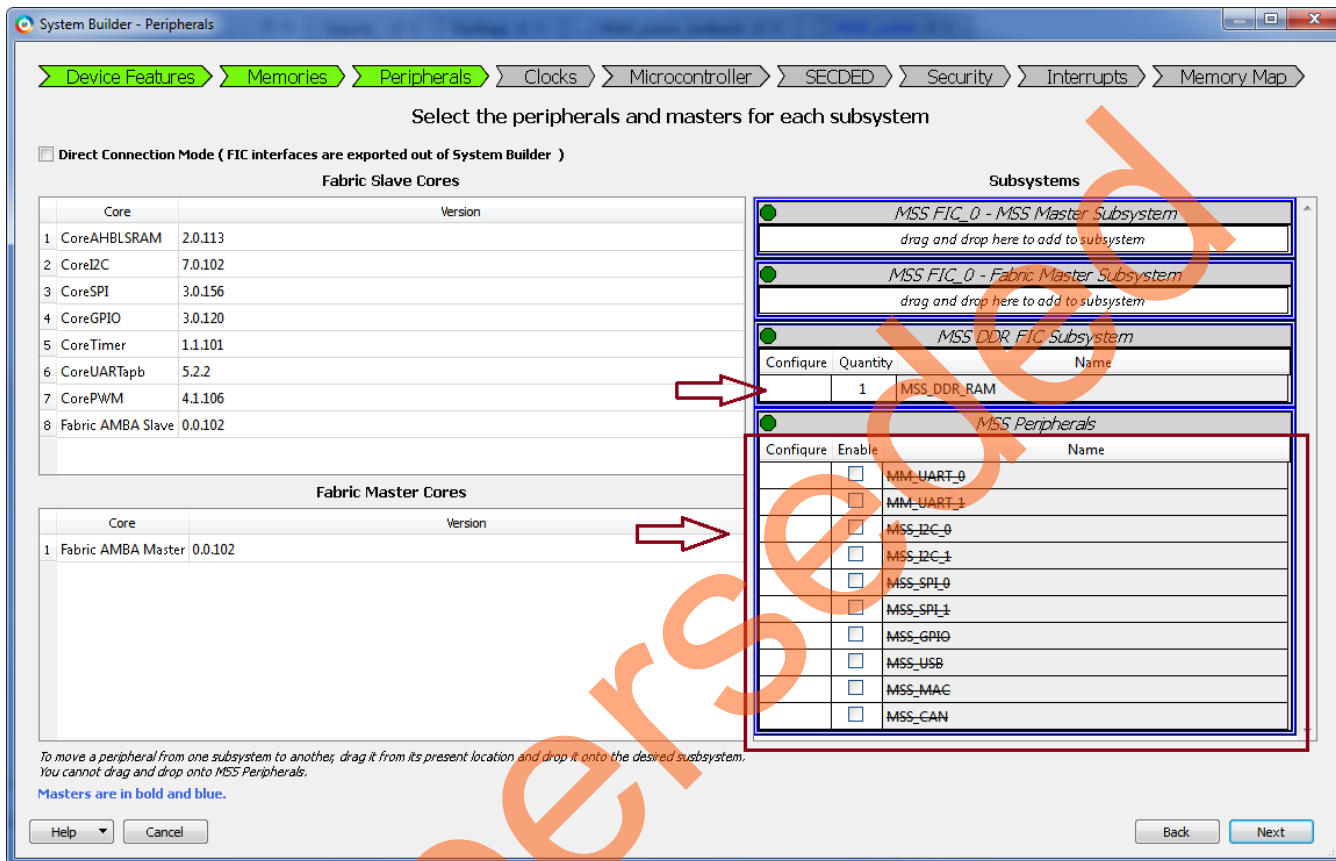

Figure 8. System Builder Configurator – Select Peripherals Page
11. Select **Next**, **System Builder - Peripherals** page is displayed, as shown in Figure 8.
This tutorial does not use any of the MSS peripherals. Clear all the **MSS Peripherals**, as shown in Figure 8.
Since the system is using an MSS DDR (on the first page of the System Builder), the MSS_DDR_RAM is shown under the MSS DDR FIC Subsystem, as shown in Figure 8.